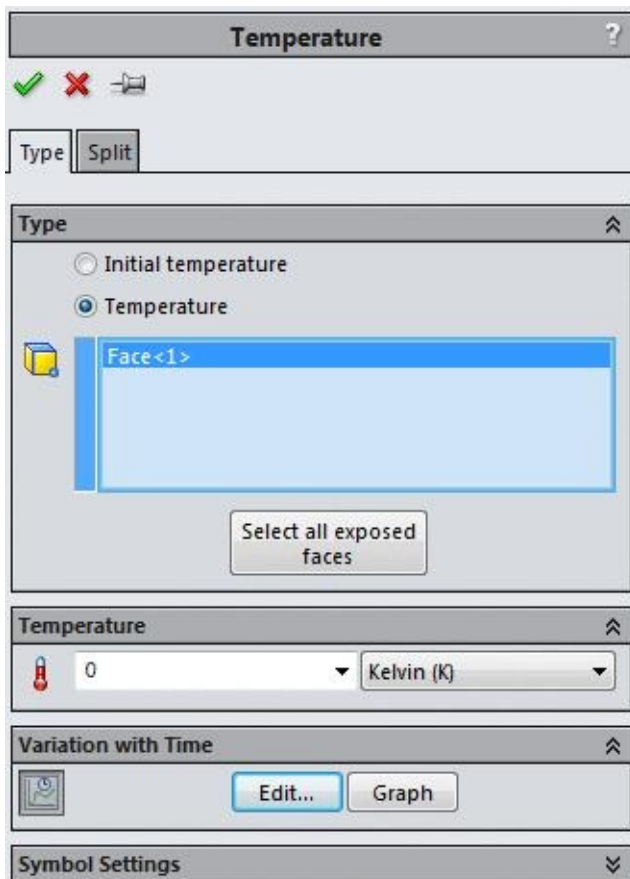

Figure-6. Temperature PropertyManager with time varying temperature
- If you select the **Temperature** radio button for a transient thermal study then the **Variation with Time** rollout is also displayed in the **PropertyManager**; refer to Figure-6.